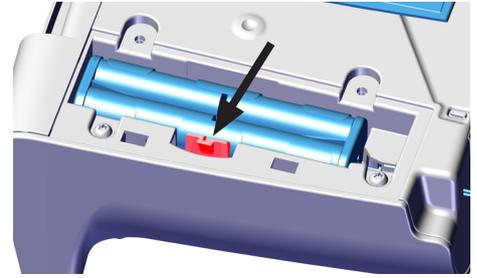

Fig. 1
See Fig. 1 (on inside cover)
- ⇒ Switch off the unit at the on/off switch (1).
- ⇒ Slide the holding clip (Fig. 1) to the side and remove the battery holder.